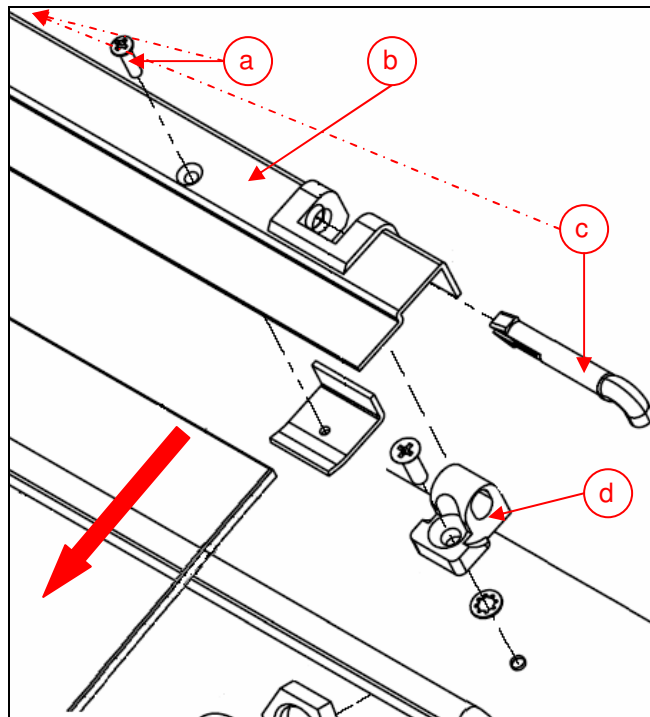

Fig. 12 - glass pane and hinge
- Open the 2 screws (fig 12 a) and pull the glass pane to the front out of the glass pane holder (fig. 13 b).
- Insert new glass pane into the holder and clamp the pane with the 2 screws (fig. 12 a), Torque = 45 Ncm.
- If you want to remove the holder, pull the retaining bolt (fig. 12 c) out of the hinge block (fig. 12 d).